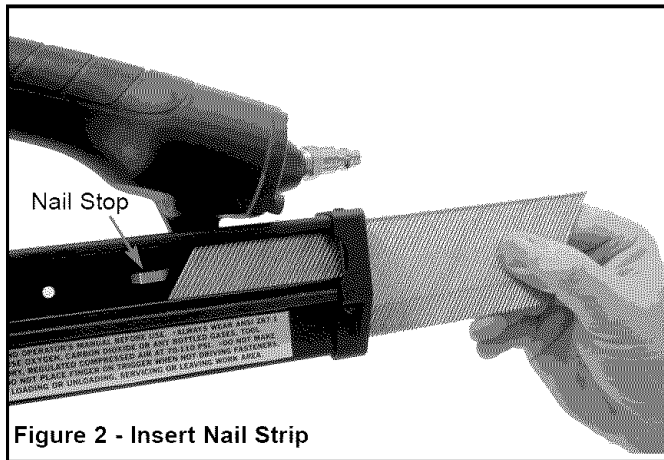

Figure 2 - Insert Nail Strip
Refer to Figures 2, 3 & 4, page 4.
- Insert one nail strip into the slot located on the end of the magazine. Feed strip past nail stop (see Figure 2).